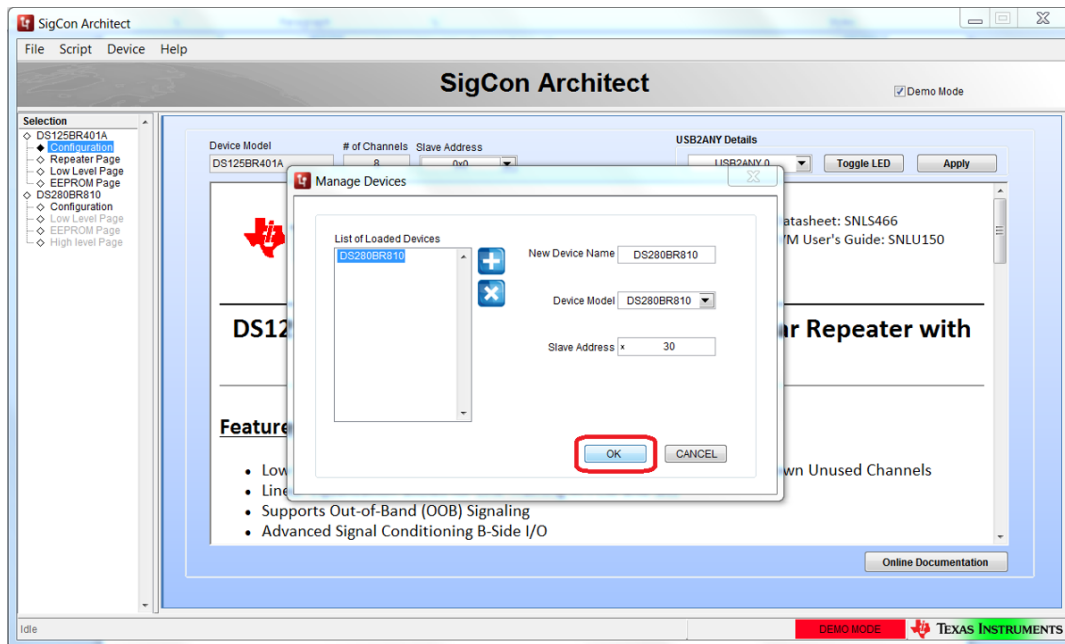

Figure 5. SigCon GUI—Profile Removal
- (b) In the *File* menu, click the *Device* menu, select *Manage Devices*, then select *DS125BR401A* under the *List of Loaded Devices* panel, and delete the *DS125BR401A* profile by clicking the *X* icon (see Figure 5). Then click the *OK* button. After following these steps, the *DS280BR810* profile becomes visible.